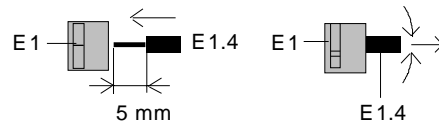

Figure 6: Connection and disconnection of leads
- Remove insulation on the ends of the leads (E1.4) and plug them into the terminal (E1) (red = +, black = -) or (yellow = +, white = -) (Fig. 6).
- Remove the terminal (E1) and pull out its lead (E1.4) by turning it alternately backwards and forwards (Figure 6).